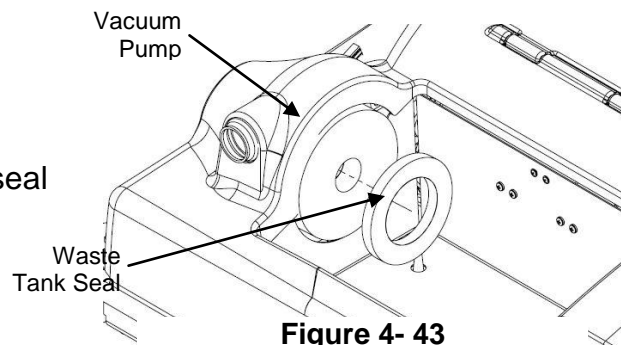

Figure 4- 43
2. Remove the waste tank from the machine to expose the waste tank seal as shown in Figure 4- 43.